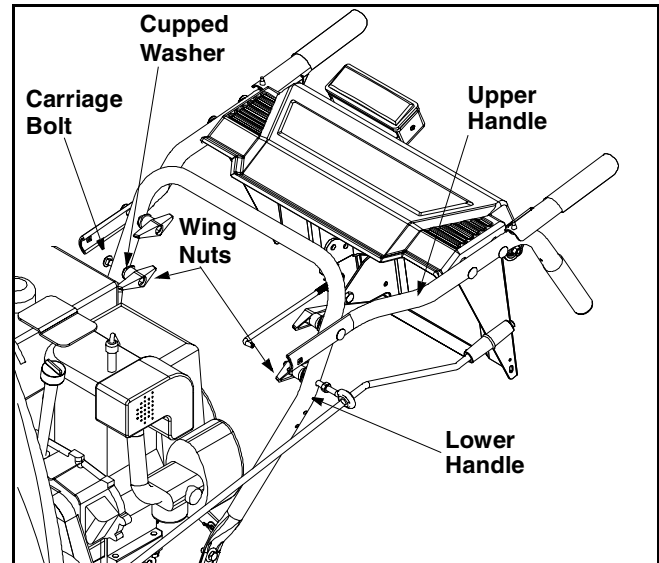

Figure 1
- Remove the **lower** two plastic wing nuts, cupped washers and carriage bolt (eyebolt on the left side) from the lower handle. See Figure 1.